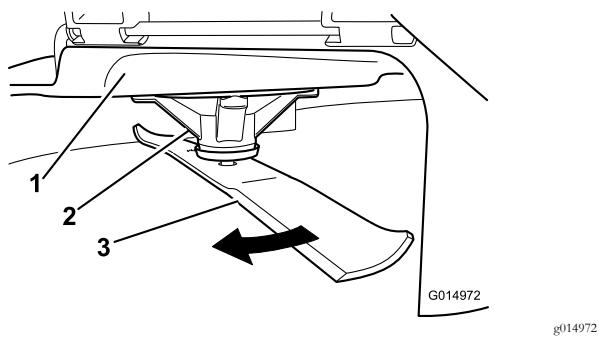

Figure 47
2. While wearing thickly padded gloves, or other adequate hand protection, slowly rotate the blade to be measured into a position that allows effective measurement of the distance between the cutting edge and the level surface the machine is on (Figure 47).